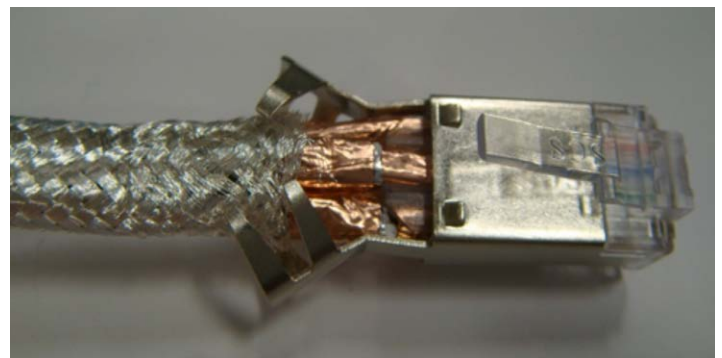

Figure 25: Replacing the braid
16. Slide the braid back toward the connector, and trim the braid where it meets the copper foil (Figure 25).